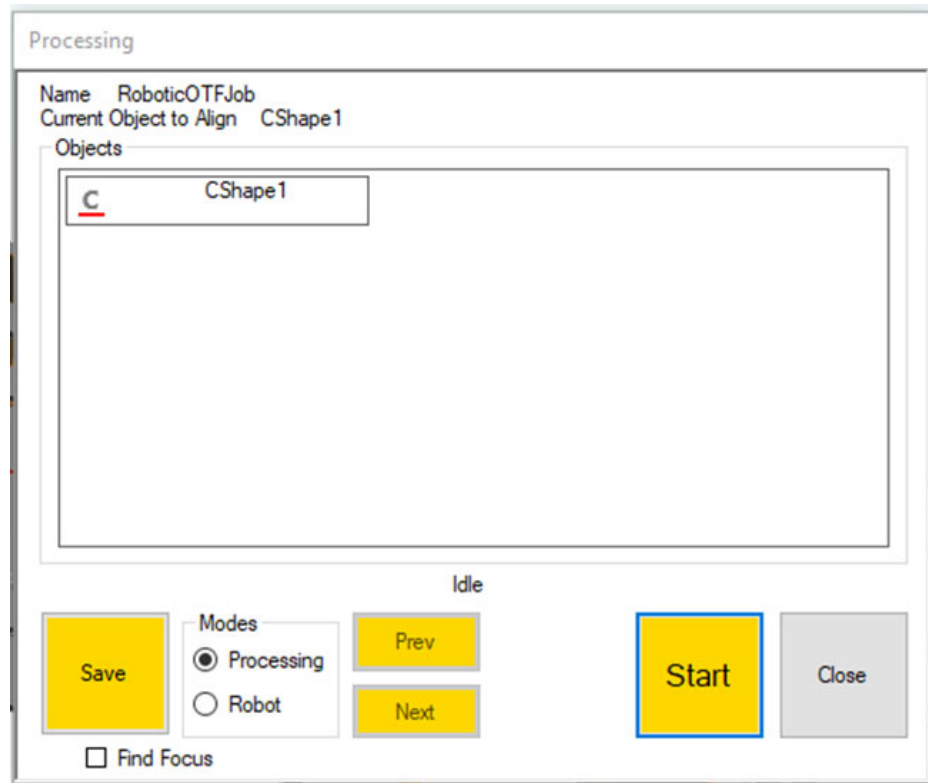

Figure 295: The Alignment Window
4. The Alignment Window will now be open. See Figure 295 (below).